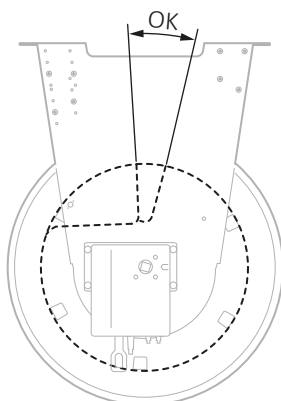

Fig. 6
4. Then adjust the limit position for unrolling with a set screw (2). The direction of the roller's hose connection must be as shown in Fig. 6, when fully unrolled. If the motor stops before the hose connector is in the correct position, make an adjustment by turning the set screw to "+". If the motor rotates the connection too far, run the motor back slightly. Then adjust by turning the set screw to "-". Repeat until the limit position is correct.